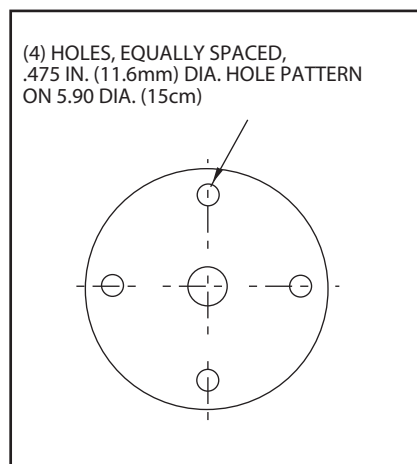

Figure 1. Hole Pattern of Ceiling Mount
2. Mark position of drill-holes as shown in Figure 1.